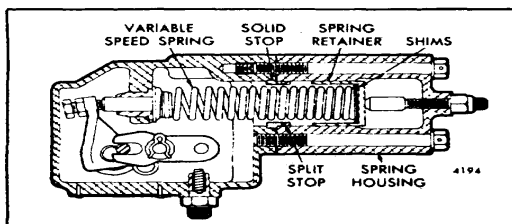

Fig. 5 · Locating of Shims and Stops
3. Refer to Table 1 and determine the stops or shims required for the desired full-load speed. Do not use more than four thick and one thin shim. A split stop can only be used with a solid stop (Fig. 5).